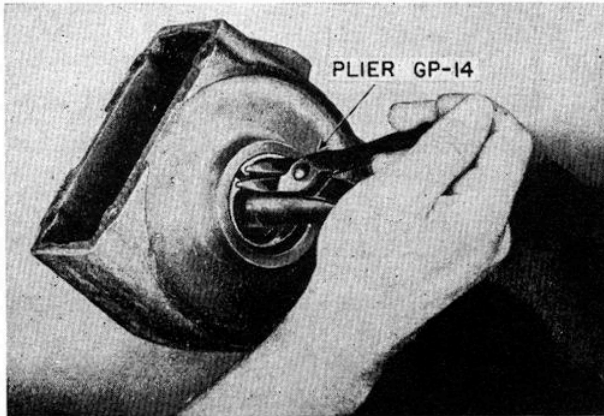

FIG. 43—REMOVING TILLER DRIVE SHAFT BEARING-RETAINER SNAP RING
- b. Place housing in vise as shown in figure 43.